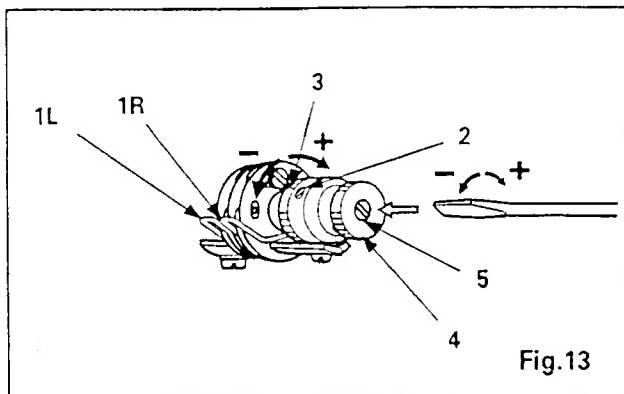

Fig.13
To regulate the tension on thread controller spring (1R) for the right needle thread, loosen set screw (2) and turn knurled ring (3), as required, as shown in Fig. 13.